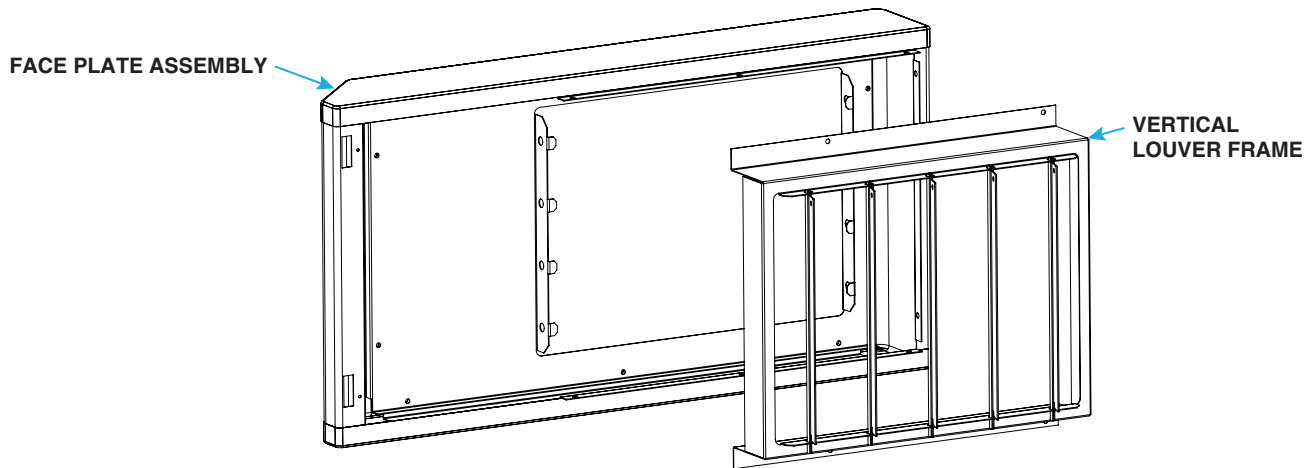

Figure 2. Typical Gas-Fired Unit Heater Face Plate Assembly (with Vertical Louver Frame Shown)
4. Remove face plate assembly (see Figure 2):
5. If installing option CD4 or CD5, install vertical louver frame (see Figure 2):